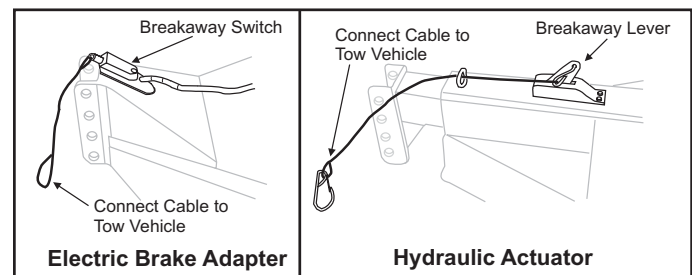

Figure 15. Breakaway Brake Systems
- Connect the pull pin cable to the tow vehicle so that the pull pin will be pulled out before all of the slack in the safety chains is taken up (see Figure 15). Do **not** connect the pullpin cable to a safety chain or to the hitch ball or hitch ball assembly. This would keep the breakaway brake system from operating when it is needed.